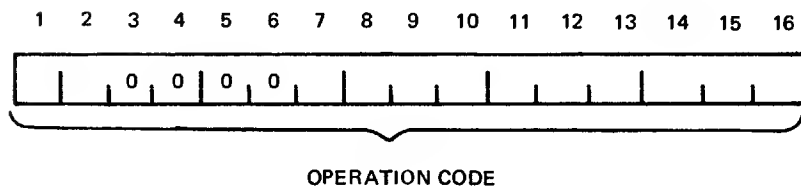

Figure 2-9. Generic Instruction
*Generic.*—Generic instructions have a 16-bit operation code without any modifying bits as shown in Figure 2-9.